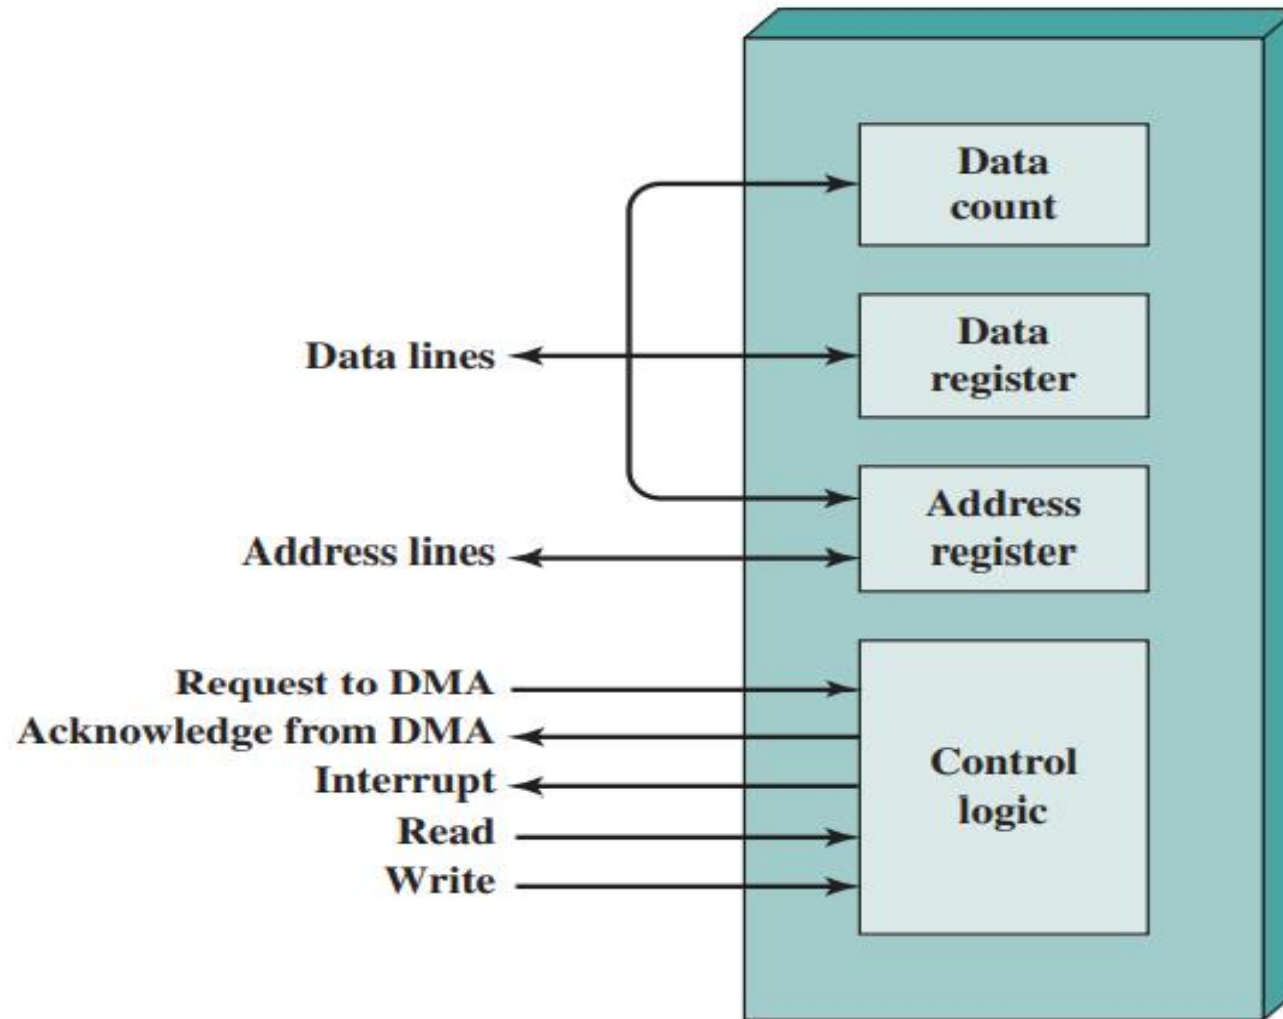

Figure 7.11 Typical DMA Block Diagram
- DMA involves an additional module on the system bus. The DMA module (Figure 7.11) is capable of mimicking the processor and, indeed, of taking over control of the system from the processor.